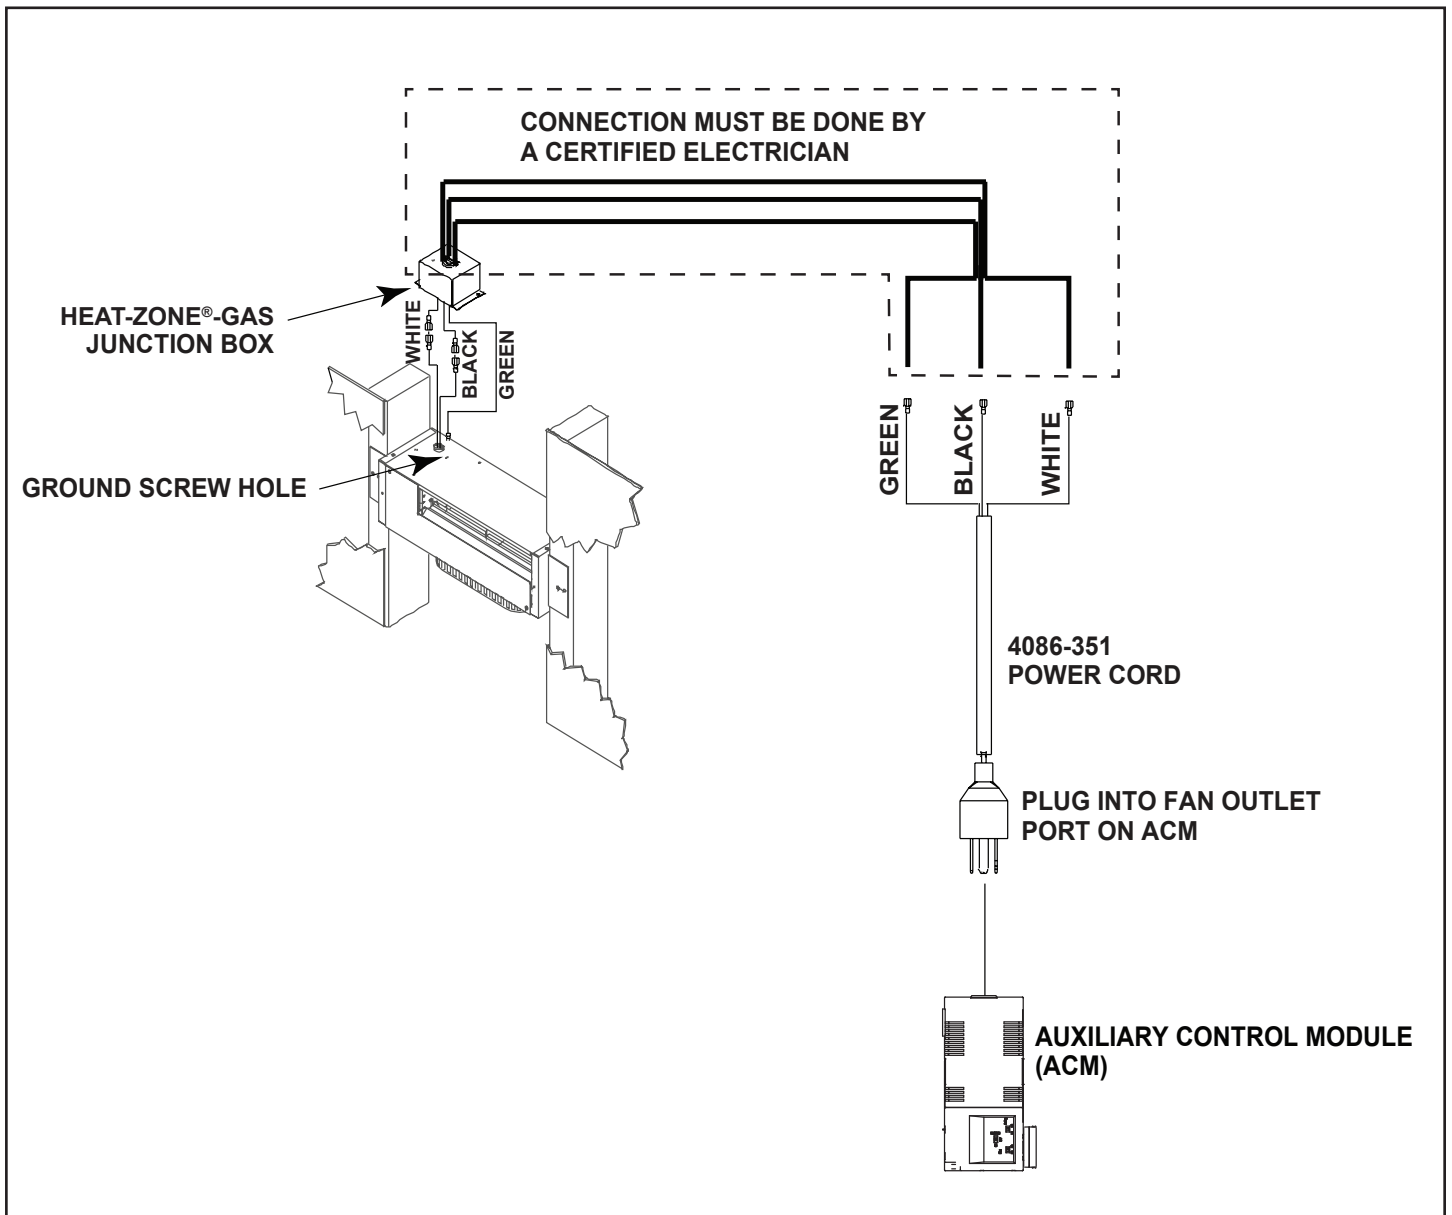

Figure 5 Heat-Zone®-Gas Wiring Diagram
- Use the power cord supplied with the HZLIN-ADP kit to plug the Heat-Zone-Gas into the fan port on the auxiliary control module (ACM). See Figure 5.